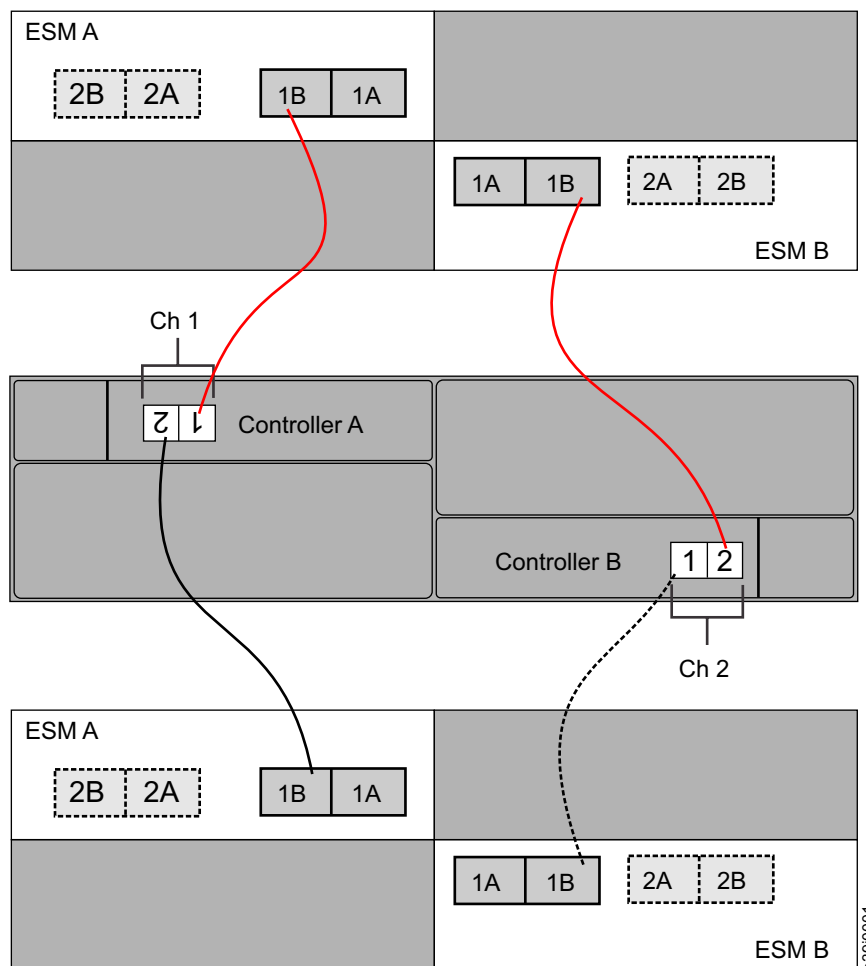

Figure 25. Round-robin cabling to the EXP520
- It is recommended that you add storage expansion enclosures to the DS5000 drive ports in a round-robin fashion. For example, if you have two EXP520s to be cabled to the DS5020, instead of cabling both EXP520s to one drive port of a drive channel, distribute the enclosures to all drive ports, which results in one enclosure per drive port of a drive channel. See Figure 25 on page 41 for an illustration.